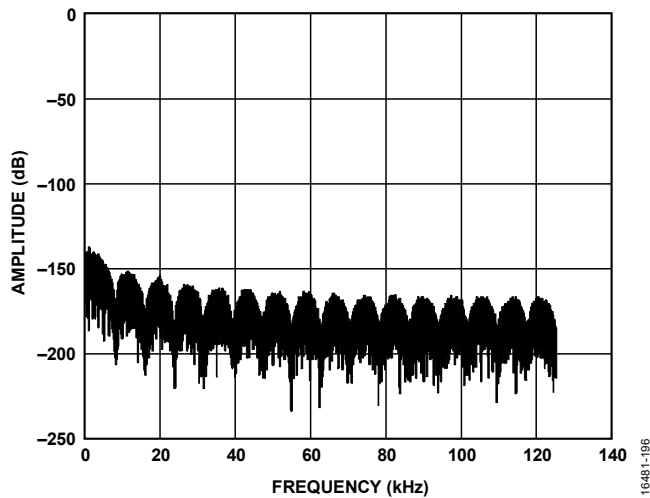

Figure 121. Example Filter Profile Upload
The following sequence programs a sinc1 filter. The coefficients in Address 0 to Address 23 = 0. The coefficients from Address 24 to Address 55 = 131,072 ($2^{22}/32$). When MCLK = 16.384 MHz and ODR = 256 kHz, the filter notch appears at 8 kHz and multiplies of 8 kHz. This filter provides low noise and is recognizable by the distinctive filter profile shown in Figure 121.
17. Gather data. The resulting filter profile is shown in Figure 121.